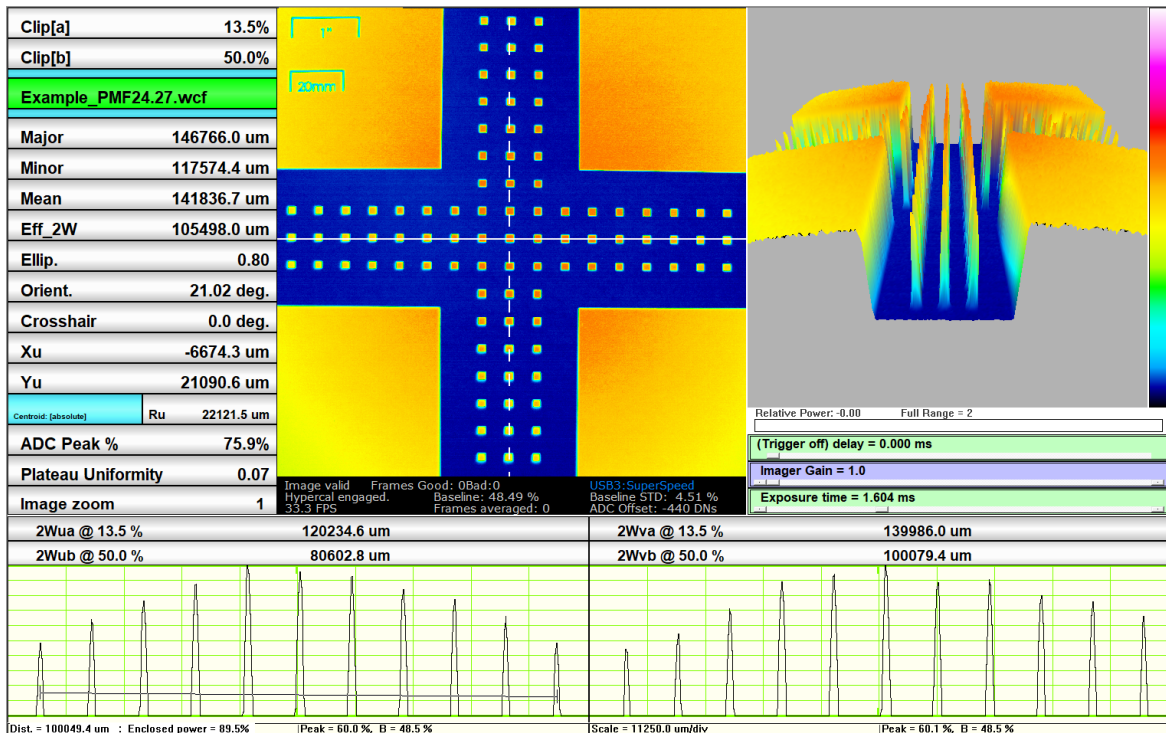

Figure 4: Shown here in the bottom-left X profile is a measurement across 10 centimeters *after the correct PMF has been set*.
- Press **Xu** in the toolbar and move the crosshairs to an appropriate position so that the grid markings can be viewed in the horizontal or vertical profile as shown in Figure 4. Center and expand the ripples and measure the pitch P in microns across 10 of the peaks or valleys (100000 microns). Your measurement will be some fraction of 100000 depending on the lens magnification at your object distance. If you did not set the PMF to 1 for calibration and the PMF is already calibrated, this measurement should be close to 100000 microns.